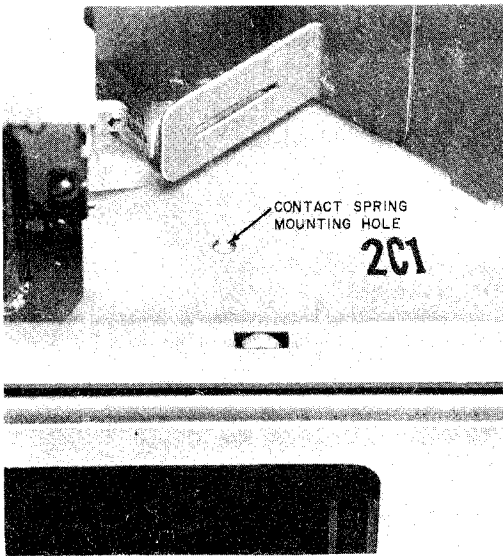

Fig. 9—Location of Contact Spring Mounting Hole in 2A, 2C, or 2D Telephone Sets
- (1) Remove coin chute and coin chassis as follows.
- (b) Disconnect (BK) and (Y) leads from coin relay and carefully pull leads through guide hole in hopper.
- (2) Using the contact spring mounting hole as a guide (Fig. 9) drill through coin rail with 1/4-inch drill.
- (3) Remove the RH screw which secures the right front of the 1B rail to the housing assembly.